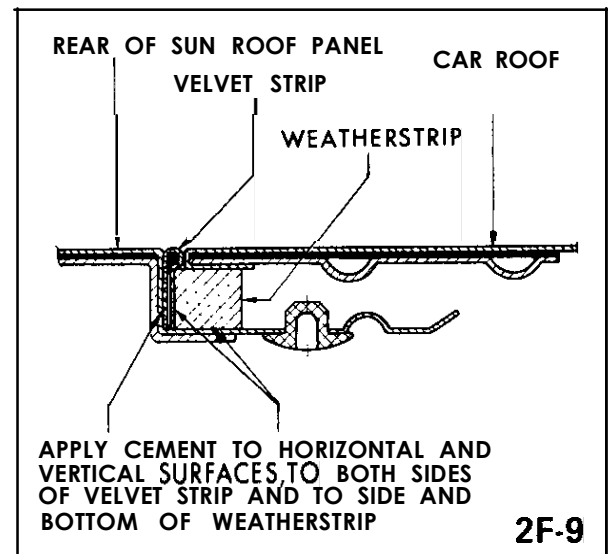

Figure 2F-9 Installing Velvet Strip and Weatherstrip on Rear of Sun Roof Panel
1. Using nitrile vinyl trim adhesive (3M Vinyl Trim Adhesive Permalastic Vinyl Trim Adhesive or equivalent) apply sparingly to vertical and horizontal contact areas at rear of sun roof panel (see Figure 2F-9) and also to side of velvet strip which will touch sun roof panel.